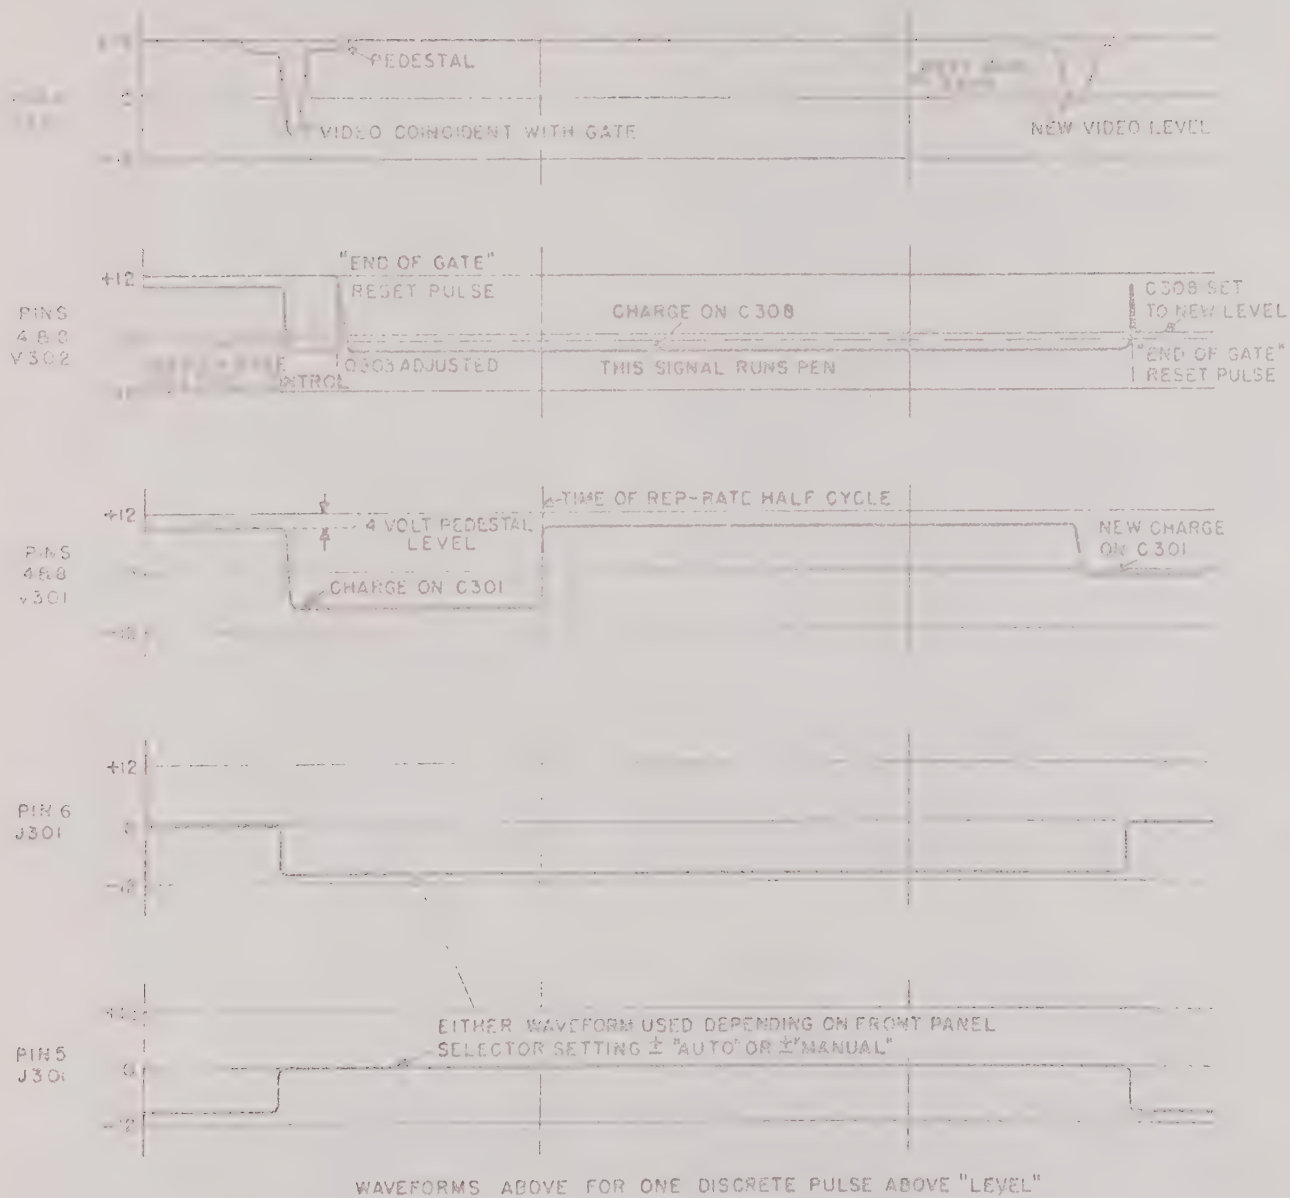

Figure 9-12
3. RECORDER BOARD 50C385 (See Figure 9-12)